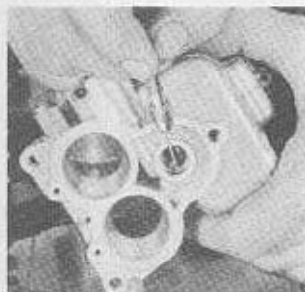

Fig. 30
**38** The two holes leading from power by-pass valve into each throat of carburetor should be cleaned, using hand chuck #9518-E and #9513-A drill (0.039") as shown in Fig. 30. Use a smaller drill for the 922A-9510-A carburetor which has a 0.033" hole here. Some "91A" carburetors for high altitude have a 0.038" hole here so the 0.037" drill #9518-H should be used. Be sure seat for power by-pass valve is not nicked so by-pass valve will seat solidly.